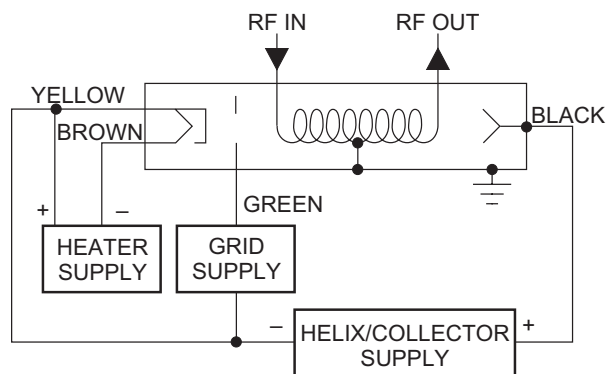

FIGURE 1. NONDEPRESSED COLLECTOR
1. Heater, cathode, grid, collector, and rf connections are made correctly, and TWT body is grounded. Some TWTs have a blue control anode lead; see Figures 1 and 2 for the typical lead-wire color code. Grid-supply polarity is as shown on the Test Performance Sheet.
At least 90 percent of the electron beam current must reach the collector when beam voltage and collector voltage are applied. Referring to Figures 1 and 2, the collector is designed to dissipate the beam power. The intermediate elements, control electrode, and helix, cannot withstand high heat dissipation and can be destroyed if full beam current reaches either of them. Periodic-permanent-magnet focused TWTs focus correctly only at voltages near the normal operating voltage. Operating voltages can be applied safely as follows: